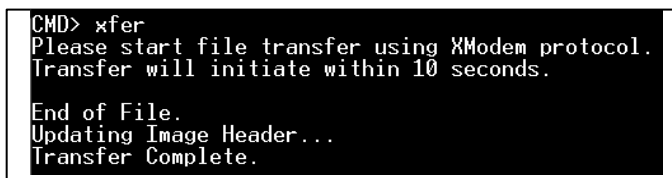

Figure 3-12 : Data Transfer Complete Message
- After all the data transfer completes successfully, the message is displayed as shown in Figure 3-12.